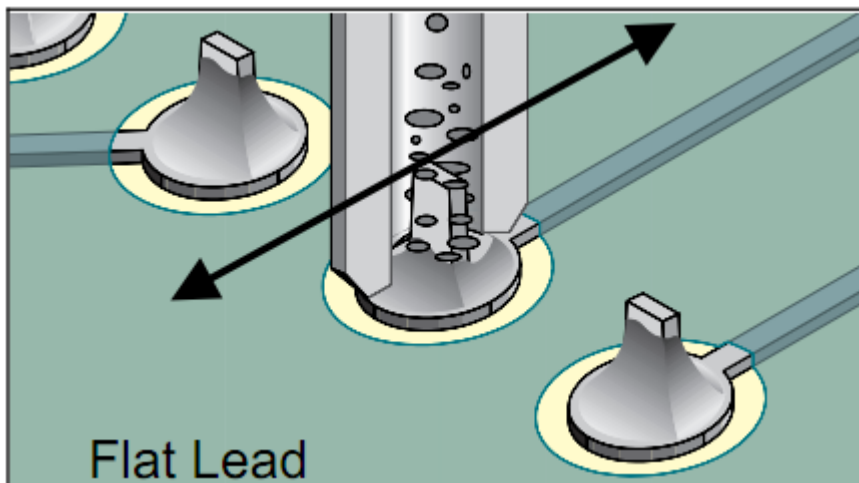

Figure 3 Move Lead & Apply Vacuum
- h) For a flat lead, move lead back and forth; for a round lead, use a circular motion and apply vacuum while continuing lead movement. (See Figures 3&4.)